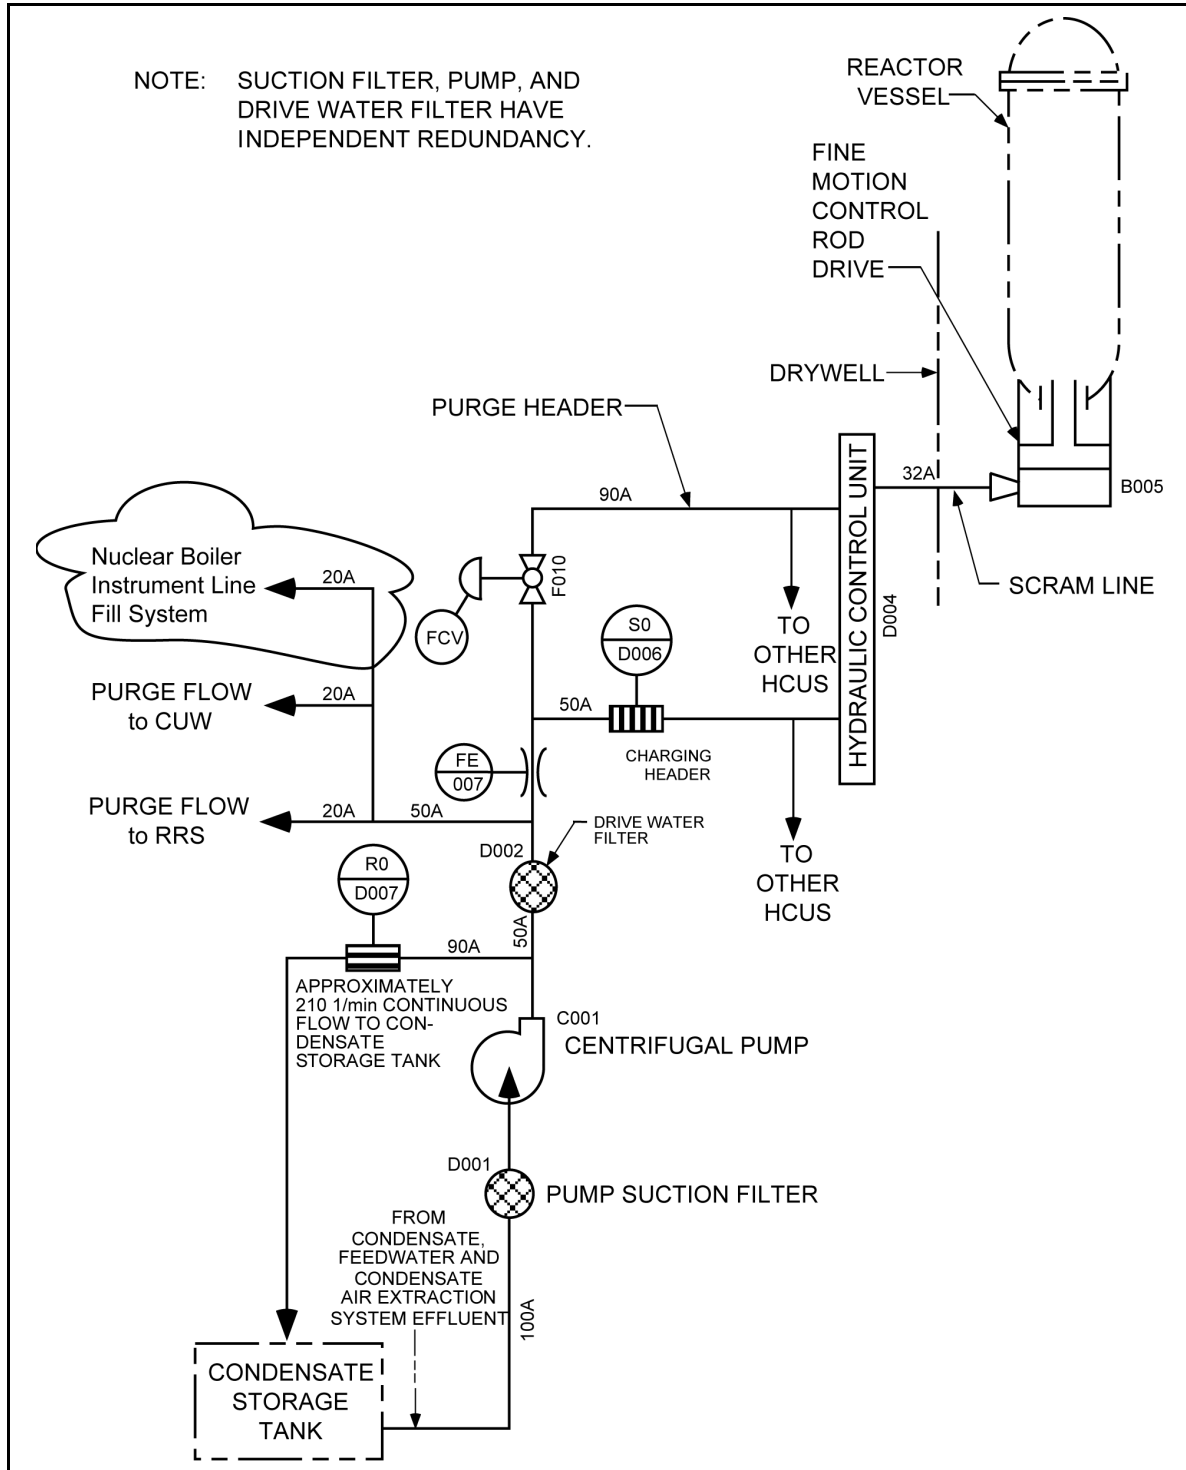

Figure 15B-1 Simplified CRD System Process Flow Diagram
STD DEP 7.7-1 (Figure 15B-1)
*A simplified CRD System process flow diagram is shown in Figure 15B-1. CRD System water is taken from the condensate, feedwater and condensate air extraction system, or Condensate Storage Tank (CST) through a suction filter by a centrifugal pump and discharged through a drive water filter to the HCU's. (During shutdown the CST is the primary source.) Each of these components is independently redundant and only one of each is in operation at any one time. A portion of the pump discharge flow is diverted through a minimum flow bypass line to the CST. The pumped water is directed to the HCU to provide hydraulic scram and to furnish purging to the drive. This system also provides purge water for the reactor internal pumps, nuclear boiler instrument lines, and the reactor water cleanup pumps.*